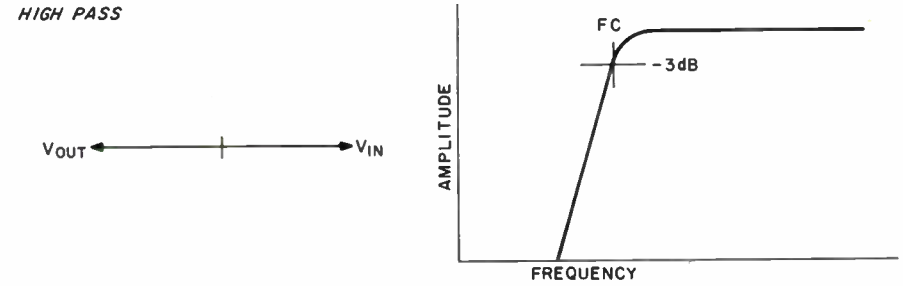

FIGURE 3. By changing the values of resistors ( $R_1$  and  $R_2$ ) the Q (resonance) of the filter can be altered.
**MIDRANGE SECTION.** Since the midrange driver is the pivotal driver in a phase aligned system, we will consider it first. The 400 to 3500Hz bandpass presents some special problems which require empirical corrections. When the 400Hz high pass is connected in series with the 3500Hz low pass filter to form the bandpass they interact, shifting the 180 degree and -6dB points. The first correction is to add the circuit of Fig. 3, to have a variable Q. Experimentation has shown the following corrections necessary: